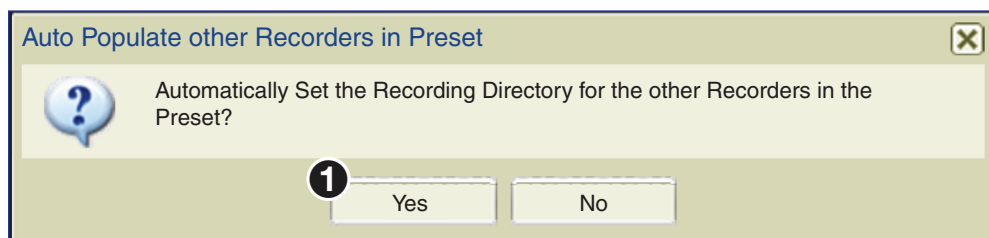

Figure 86. Recording Browser, Auto Populate Other Recorders
7. A dialog box opens. Select **Yes** (see figure 86, ①) to automatically create the same directory on other recorder devices in the preset, or **No** to continue.